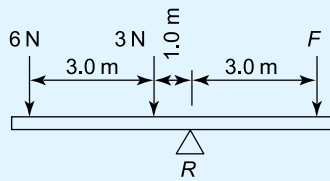

Figure 6.35
6. Which of the following statements is false for the beam shown in Figure 6.35 if the beam is in equilibrium?